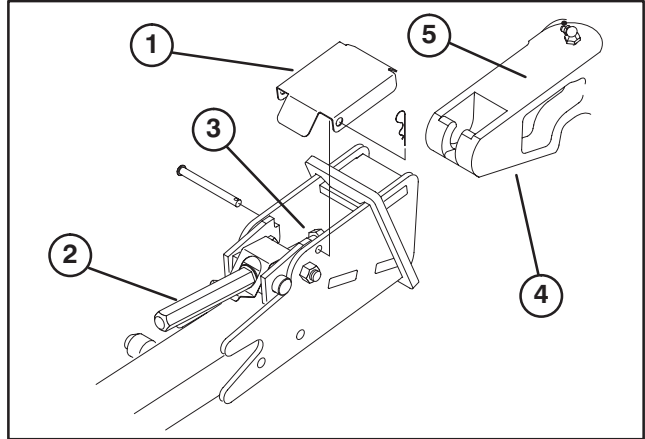

Figure 22
3. Adjust lift arms heights making sure that the machined surface on top of each traction unit lift arm is parallel to ground (Fig. 22). (Raise or lower lift arm casting by pushing up or down from behind the front tires or using wrench in front of traction unit)